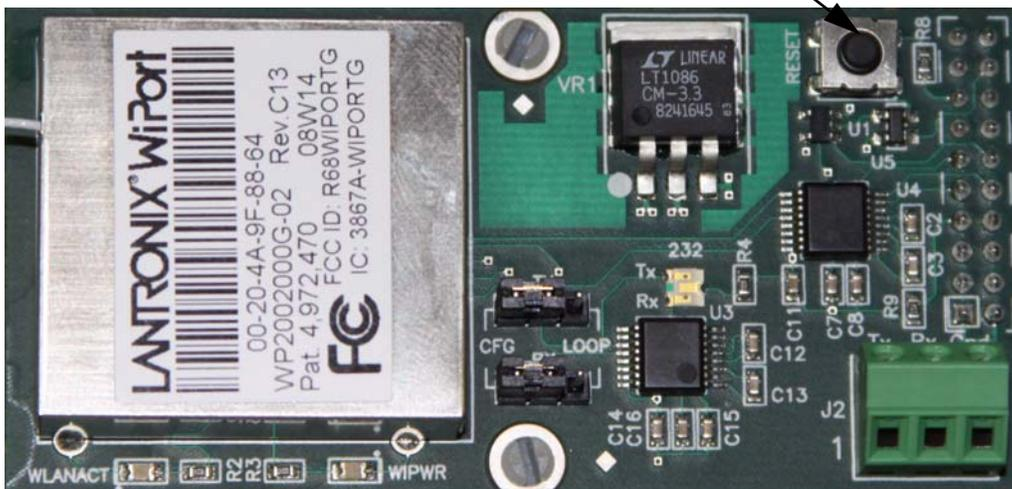

Figure 4-8. Manual Reset Button location on WLAN option card
6. Reset the WLAN option card by pressing the manual reset button shown in Figure 4-8, and immediately upon release, enter three lowercase x characters (xxx) at the same time.